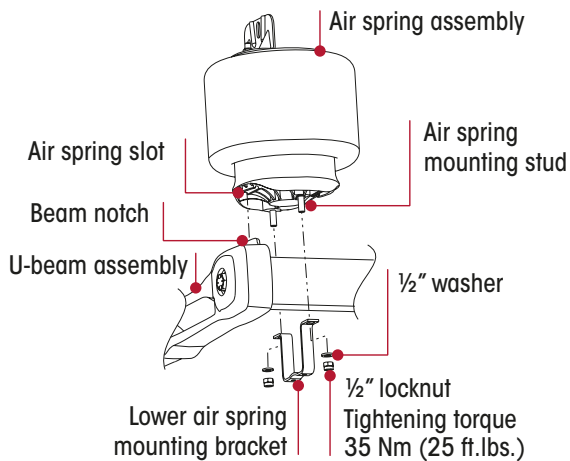

Figure 44: PRIMAAX® EX Air Spring – Integrated End Cap
3. Install the air spring between the frame and the cross tube. Ensure the air spring slot in the bottom of the air spring engages the beam notch on the top of the support beam. Refer Figure 44.